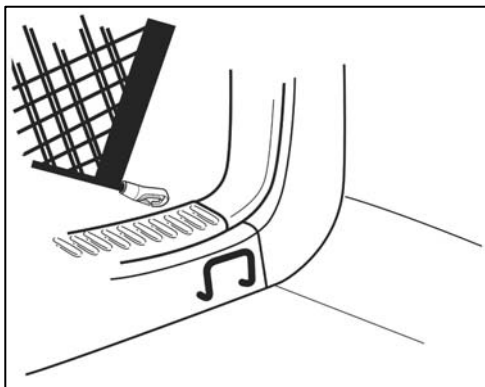

Fig. 1-2
- (b) Orient the net so the pull-tab is facing towards the rear of the vehicle and install the bottom hook over the driver side lower D-ring as shown. (Fig. 1-2)